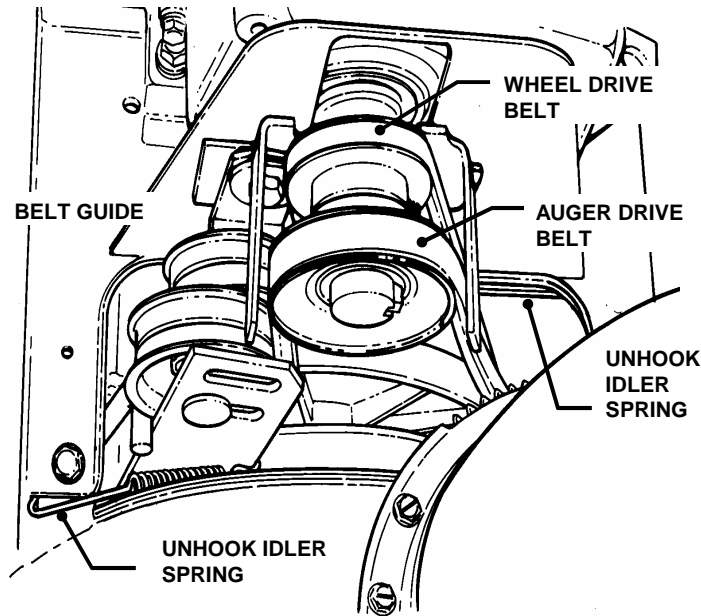

FIGURE 4.6
4. Loosen auger/impeller belt guide. See Figure 4.6.
6. Remove wheel drive belt from around engine pulley. See Figure 4.6.